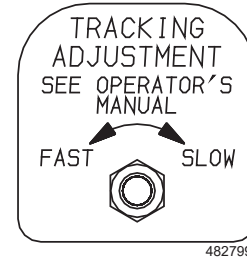

Figure 6-1. Neutral Adjustment
- Start on the left side of the machine, using the adjustment wrench located on the left side of the machine. Rotate the tracking adjustment nut counter clockwise just until the LH wheel starts to creep forward. Make note of the position of the adjustment nut. Repeat on the right side as needed. See Figure 6-1.